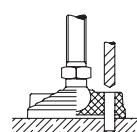

Fig.1
- **LV.F-ESD-C:** with two holes at 180° for ground mounting, supplied covered by a breakable plastic diaphragm (which can be easily removed by a metal tool) to avoid all unhealthy deposits of dirt and dust when the ground mounting is not required (see Fig.1).
- **LV.F-AS-ESD-C:** with two holes at 180° for ground mounting, supplied covered by a breakable plastic diaphragm (which can be easily removed by a metal tool) to avoid all unhealthy deposits of dirt and dust when the ground mounting is not required (see Fig.1).